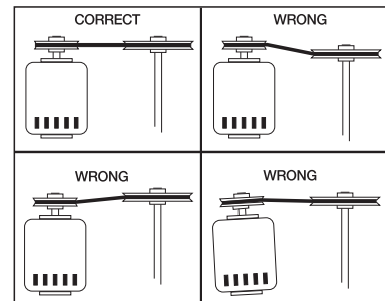

Figure 4
7. If adjustments are made, it is very important to check the pulleys for proper alignment. Misaligned pulleys lead to excessive belt wear vibration, noise and power loss, see Figure 4.
Belts too tight or too loose	Refer to Figure 4 and adjust tension.